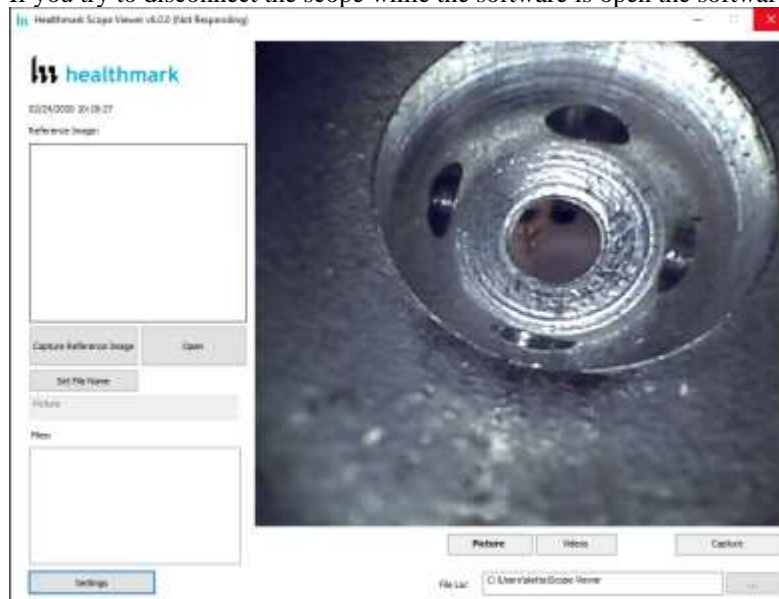

Figure 18
2. If you try to disconnect the scope while the software is open the screen freezes (**Fig. 18**)